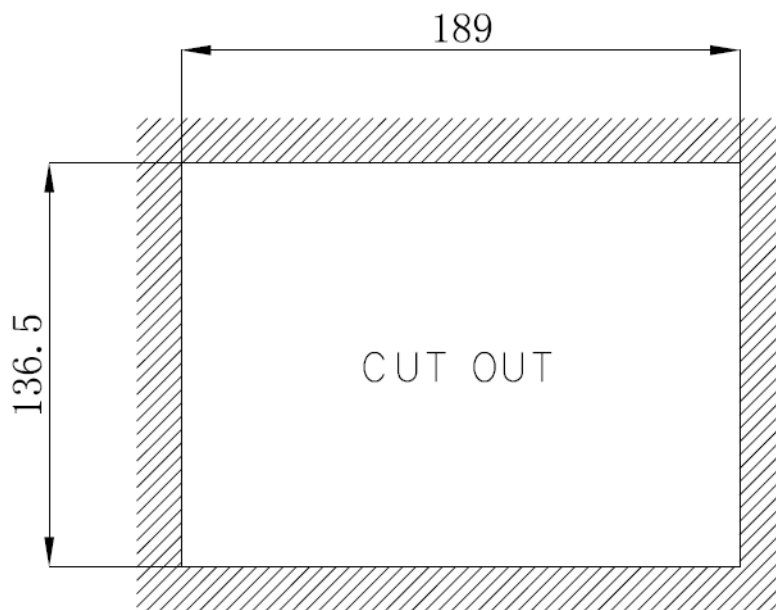

Figure 2.24 PPC-3060S Cut-out Dimensions
1. Cut out a section corresponding to the size shown below. The dimensions are in mm. (See Figure 2.24)